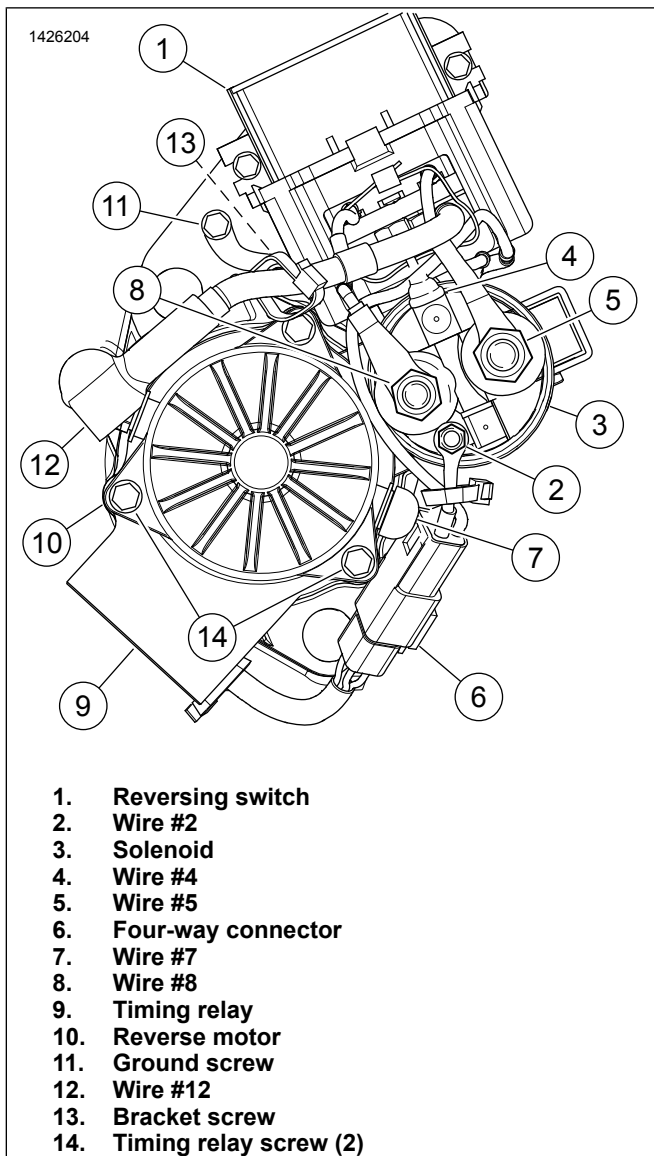

Figure 41. Reverse Motor Electrical Kit Connections
- a. Remove mounting screws (1) while holding nuts (6).
- c. Remove terminal screws (5) securing wire #11 (4) and wire #1 (3) from Contactor Z.
- d. Remove Contactor Z (7).
5. See Figure 41. Disconnect wires from reversing switch to solenoid.
- a. Remove wire #8 (8) nut from solenoid (3).
- b. Remove wire #5 (5) nut from solenoid.
- b. Remove wire #7 (7) nut from reverse motor (10).
- c. Remove wire #12 (12) nut from reverse motor.
7. Remove wire #2 (2) nut from solenoid.
8. Disconnect four-way connector (6).
- a. Remove heat shrink from wire #4 (4) screw.
- a. Remove screw (1).
- b. Verify O-ring (4) behind upper bracket (3) remained in place.
- c. See Figure 41. Remove bracket screw (13).
11. See Figure 41. Remove timing relay.
- a. Disconnect four-way connector (6).
- b. Remove timing relay screws (14).
1. See Figure 41. Install bracket screw (13). Tighten.